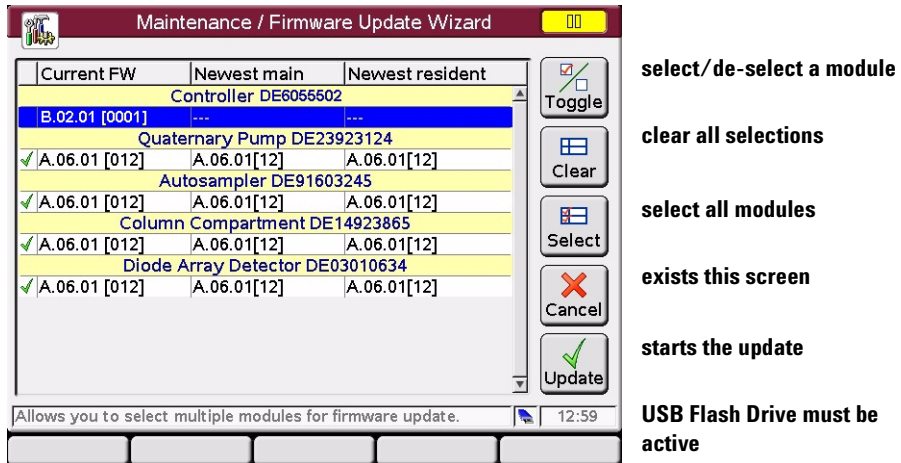

Figure 100 Firmware Update Screen - Update Wizard
- 2 The next screen (Figure 100) shows all modules, their installed firmware revisions and the available firmware revisions on the USB Flash Drive.